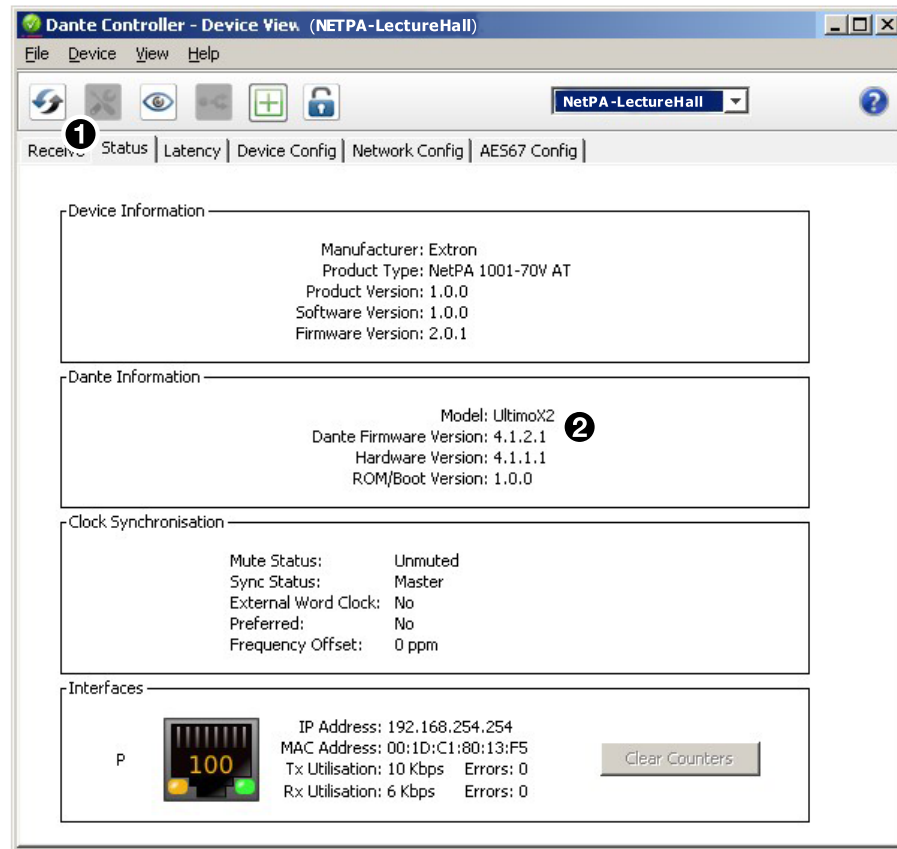

Figure 33. Status Tab - Checking Dante Information
4. Select the **Status** tab (see figure 33, ①).